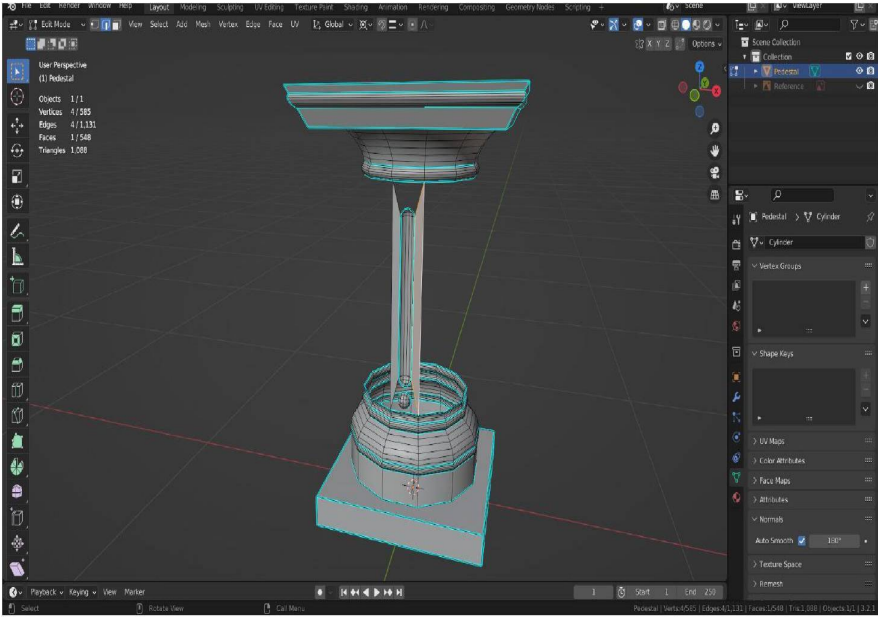

Figure 4.34: New faces bridging the elongated hemisphere and remaining edges of the previously deleted cylinder face
23. Next, switch to **Edge select** mode, and select two neighboring edges, one from the deleted face of the cylinder, and the other, the closest open edge of the elongated hemisphere. Then press **F** to fill the space between them with a face as shown in *Figure 4.34*.